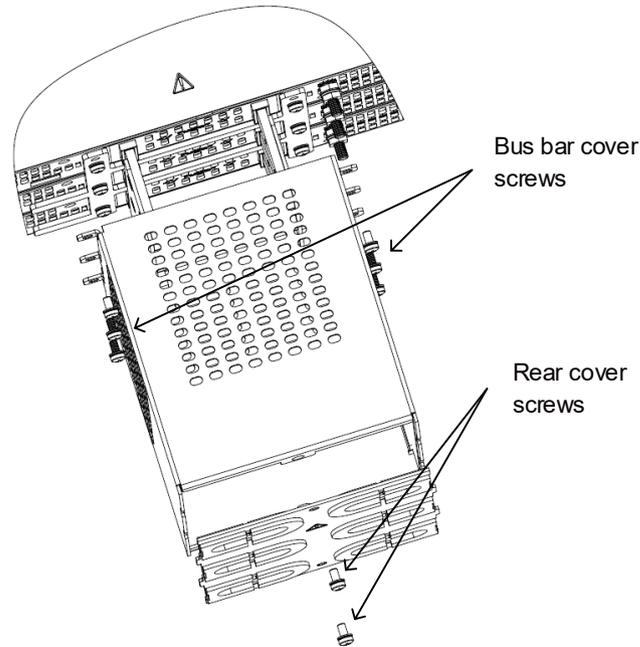

Figure 4-54: Disassembly of Output Protection
1. Open the output protection assembly by unscrewing bus bar cover and rear cover screws as shown in Figure 4-54 (15kW is shown, it applies to 10kW as well. For 10kW, there are 4 Bus bar protection cover screws only).